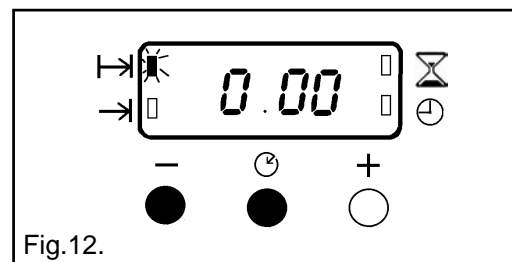

Fig.12.
- i) To cancel an automatic programme press the Selector Control button until the 'Cook Time' (  ) indicator neon flashes. Press the decrease control ( - ) until the display reads 0.00 as Fig. 12.